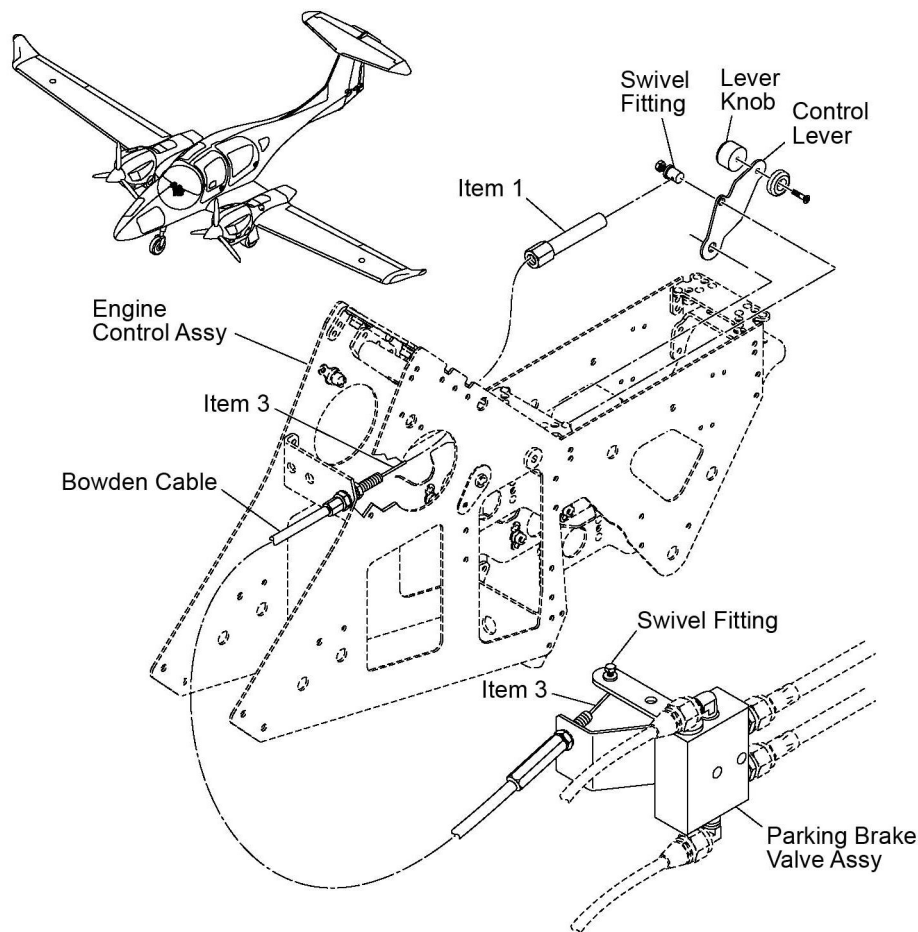

Figure 1. Parking brake installation.
8. Install the new control cable core (item 3):
- Cut the new control cable core (item 3) to the same length as the old control cable core. Remove sharp edges.
- Move the new control cable core (item 3) into position in the outer sleeve.
9. Install the bowden cable extension (item 1) to the bowden cable in the engine control using threadlocking adhesive (item 2 or 2a) according to the manufacturer Technical Data Sheet. Refer to Figure 1.